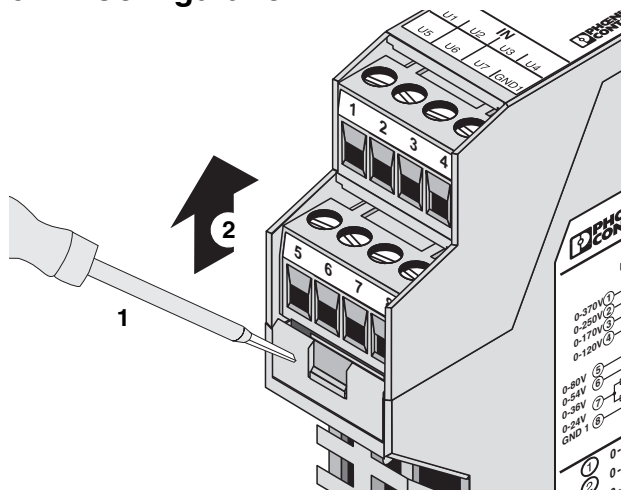

Figure 4 Opening the housing
- Using a screwdriver, release the locked upper part of the housing on both sides (1). The upper part of the housing and the electronics can now be pulled out approximately 3 cm (2) (see Figure 4 on page 6).